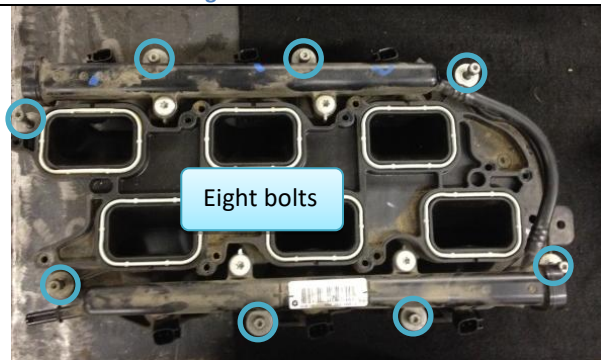

Figure 23: Lower intake bolts to remove.
14.1. Loosen eight bolts holding down intake manifold all around in a crisscross pattern starting from the outside (Figure 23)